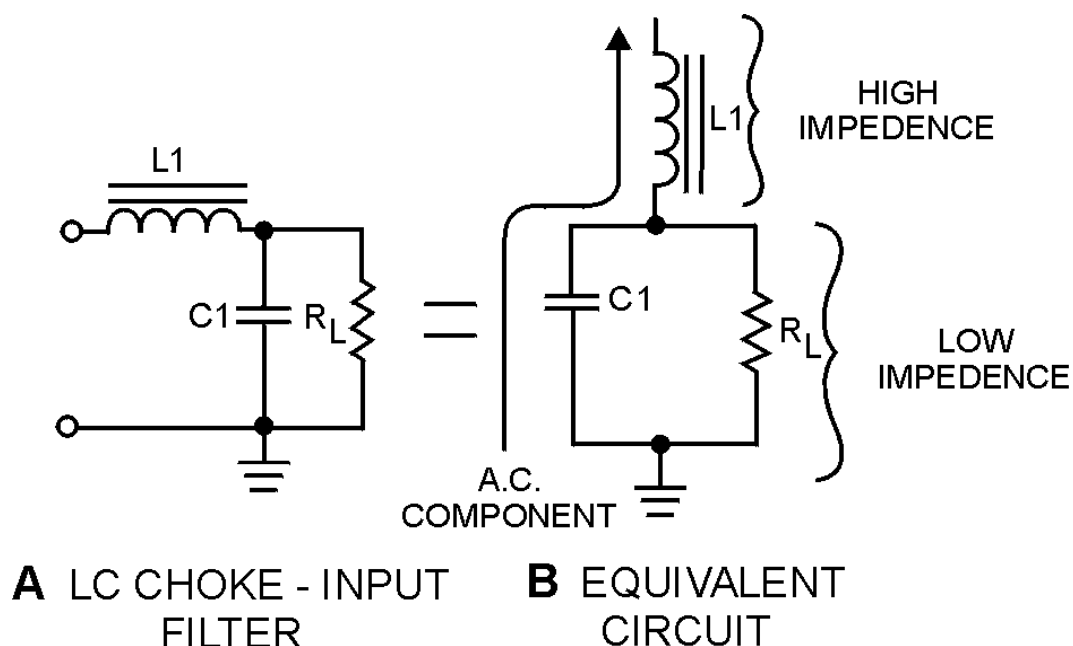

Figure 4-21.—LC choke-input filter.
The inductor (also referred to as the filter choke or coil) serves to maintain the current flow to the filter output (R_L) at a nearly constant level during the charge and discharge periods of the filter capacitor. The inductor ($L1$) and the capacitor ($C1$) form a voltage divider for the ac component (ripple) of the applied input voltage. This is shown in views A and B of figure 4-21. As far as the ripple component is concerned, the inductor offers a high impedance (Z) and the capacitor offers a low impedance (view B). As a result, the ripple component (E_r) appearing across the load resistance is greatly attenuated (reduced). The inductance of the filter choke opposes changes in the value of the current flowing through it;